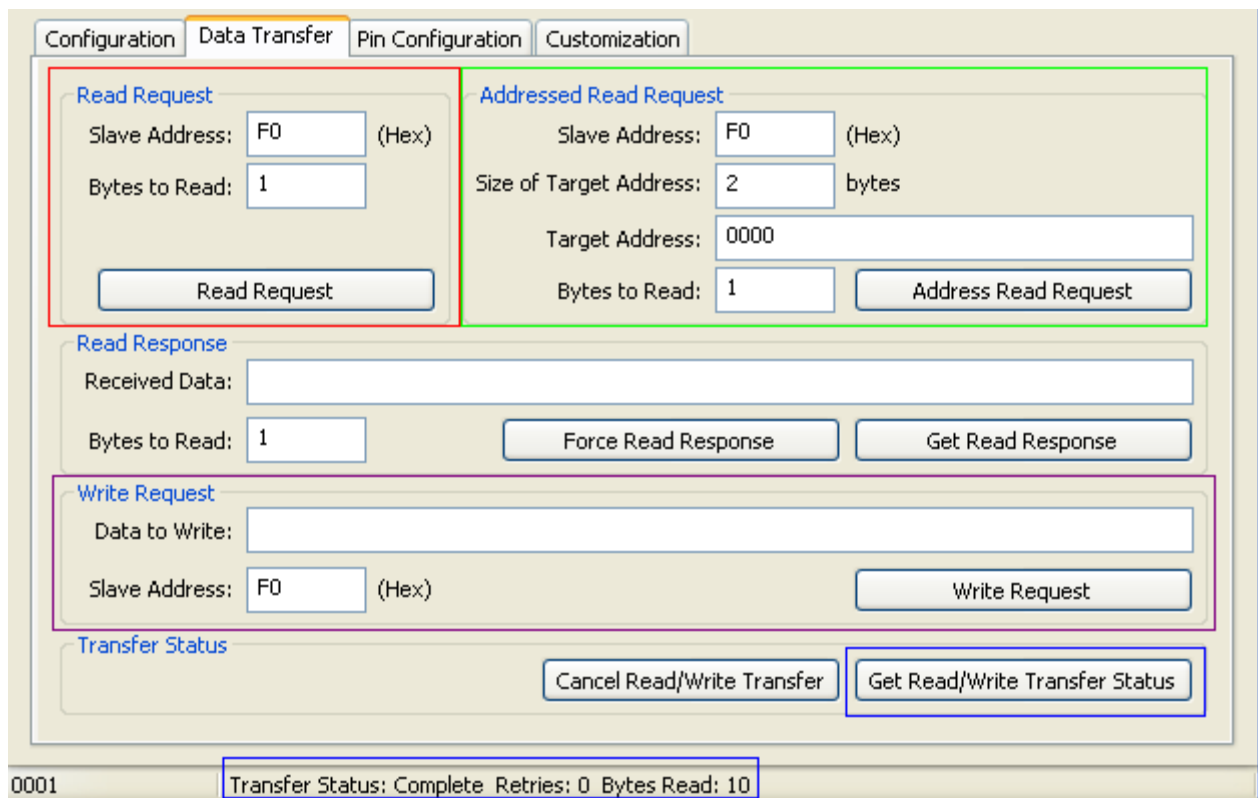

Figure 3. Data Transfer Tab
6. Figure 3 shows the Data Transfer tab, which allows you to transfer read and write data over the SMBus.